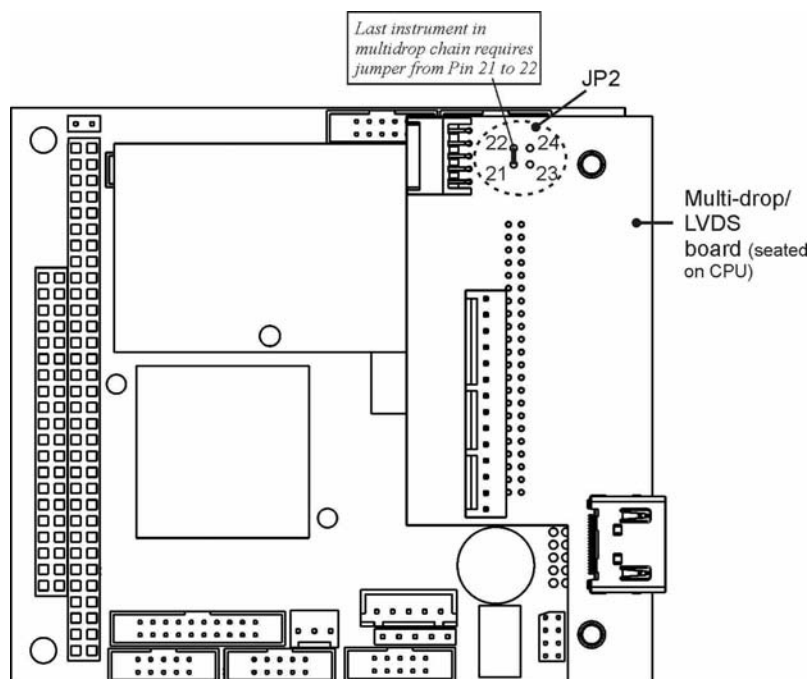

Figure 7-3: Multidrop/LVDS PCA Seated on CPU
2. On the multidrop PCAs JP2 connector, use the shunt provided to jumper Pins 21 ↔ 22 as indicated in Figure 7-3.